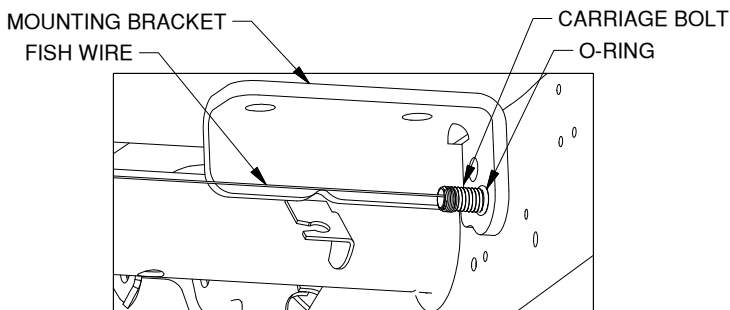

Figure B3: Looking at mounting bracket installation.
- Pull fish wire through frame.** With the fish wire through the locking strap, push the locking strap completely into the frame. Next, pull the carriage bolt into the frame. Continue pulling on the fish wire until the threaded portion of the bolt is sticking out of the frame. Turn carriage bolt until square shoulder engages square hole of strap. Thread the mounting bracket and an O-ring over the fish wire and onto the bolt. Push the O-ring tight against the bracket, see Figure B3. This will prevent the bolt from accidentally falling back into the frame. The O-ring will stay on the bolt after the washer and nut are installed and tightened.